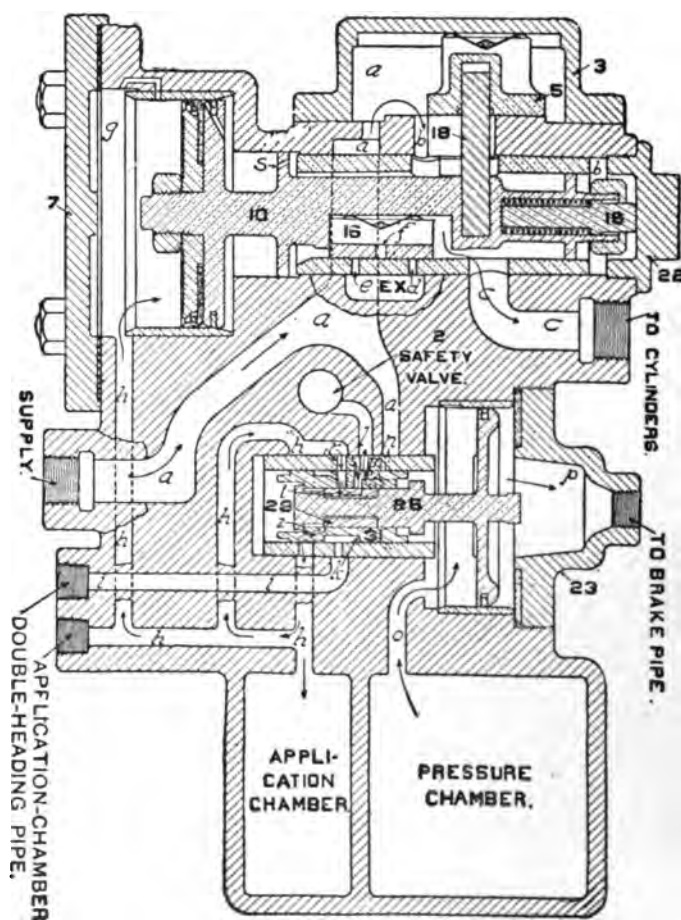

FIG. 273. AUTOMATIC SERVICE
**SERVICE.** When a service application is made with the automatic brake valve, the brake-pipe pressure in chamber *p* is reduced, causing a difference in pressure on the two sides of this piston, which results in the piston moving toward the right. The first movement of the piston closes the feed groove, and at the same time moves the graduating valve until it uncovers the upper end of port *z* in the equalizing slide valve 31. As the piston continues its movement, the shoulder on the end of its stem engages the slide valve, which is then also moved to the right until port *z* in the slide valve registers with port *h* in the seat. As the slide valve chamber is always in communication with the pressure chamber, air can now flow from it to the application chamber. This pressure forces application piston 10 to the right, as shown in Fig. 273, causing application valve 5 to uncover port *b* and allow main reservoir air to flow to the brake cylinders through port *c*, as in an independent application.